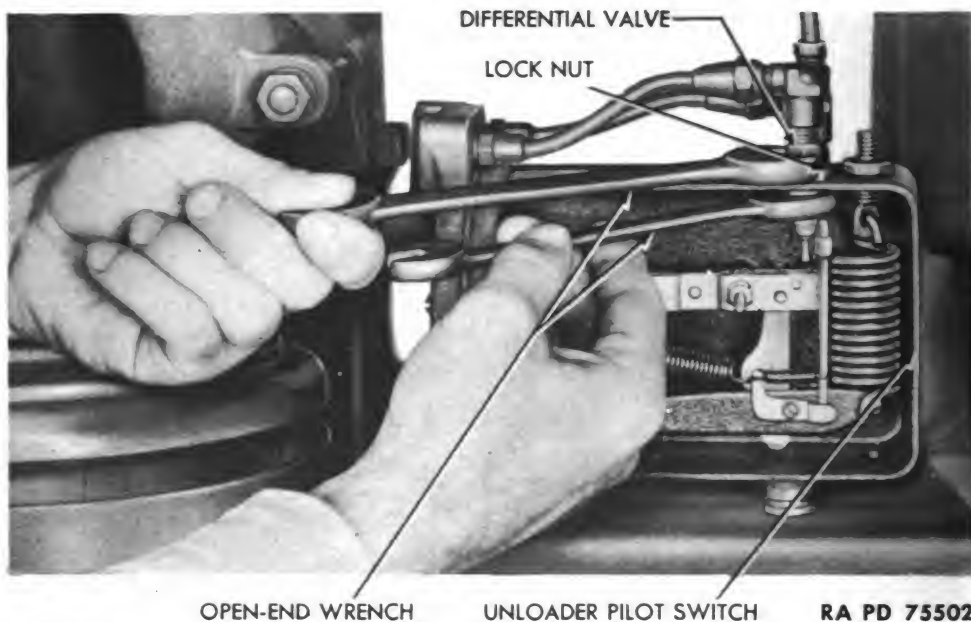

Figure 14 — Adjusting Differential of Compressor Unloader Pilot Valve
(11) **DIFFERENTIAL ADJUSTMENT OF UNLOADER PILOT VALVE** (fig. 14). Do not change the differential adjustment of the pressure control system unless it becomes necessary due to presence of chattering or other difficulty. Differential pressure should never be adjusted to less than 10 pounds because of the danger of inducing chattering. When necessary to adjust differential pressure, proceed as follows: